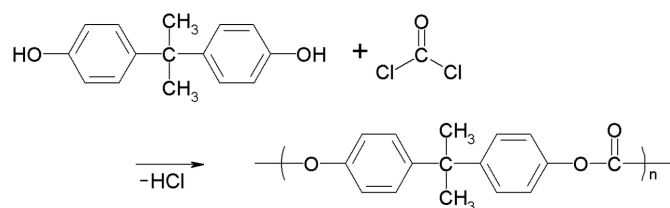

Figure 27.6p. Formation of polycarbonate from bisphenol A and phosgene. (Credit: Photo by Akane700, PDM)
Polycarbonates (PC) are a group of thermoplastic polymers containing carbonate groups ($-O-(C=O)-O-$) in their chemical structures. The main polycarbonate material is produced by the reaction of bisphenol A (BPA) and phosgene $COCl_2$. The overall reaction is shown in Figure 27.6p.